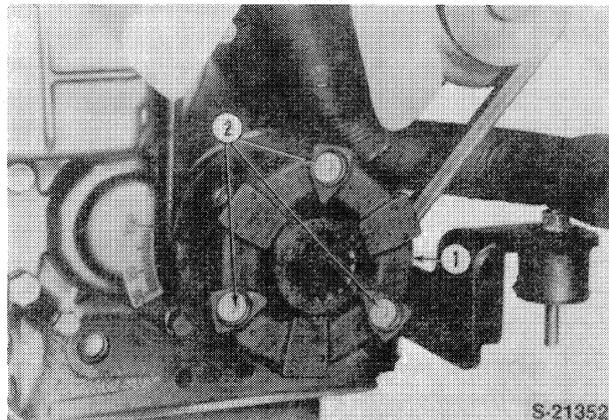

Figure 53
- 1. Remove the three coupler bolts (2) and remove the coupler (1) from the crankshaft pulley, Figure 53.